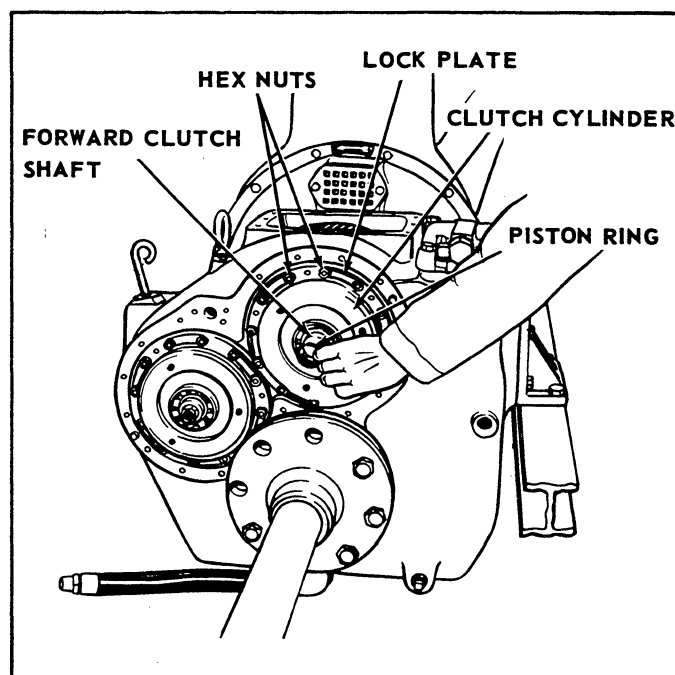

Figure 26. Removing the Piston Ring from the Forward Clutch Shaft.
(8) Remove the piston ring (Fig. 26) from the forward clutch shaft. Bend back the locking edges of the six lock plates (Fig. 26). Remove the twelve hex nuts and the six lock plates that secure the clutch cylinder (Fig. 26) to the clutch spider.